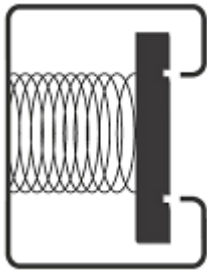

Figure 4: Spring Nut in Strut
3. Use 3/8" bolts to attach the modules to spring nuts in the struts (**Figure 4**). Mount the lowest module first, and then add modules working upward.
4. Use 3/8" bolts to attach the modules in the left column to spring nuts in the struts (**Figure 4**). Mount the lowest module first, and then add modules working upward.
6. Once the right column cabinet is joined to the left column cabinet, use 3/8" bolts to attach the right end of the right column module to spring nuts in the struts (**Figure 4**).